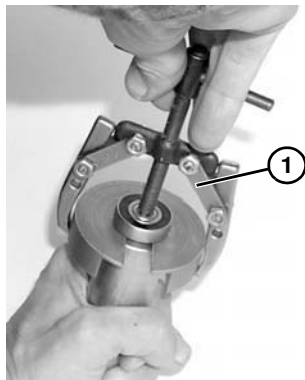

Figure 78
2. Using puller part #807-1716 (**Figure 78, item 1**), remove and discard bearing.